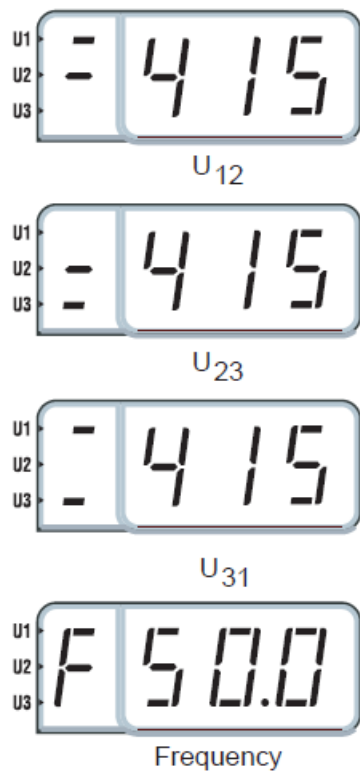

Figure 2: Display for L-L setting. 415V and 50.0Hz shown as example
- The Data LED shows a value. Press "UP" or "DOWN" to scroll through the parameters as shown in Figures 2 and 3 (depends on L-L or L-N setting).